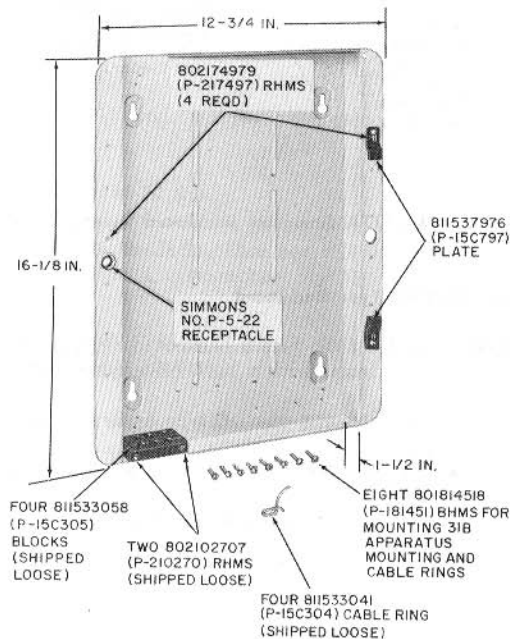
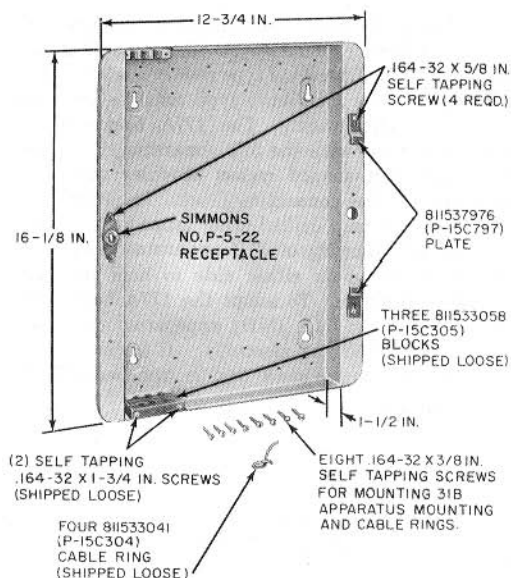

Fig. 22—177A Aluminum Backboard Assembly (MD)
Fig. 23—177A Fiberglass Backboard Assembly
5.03 The 177A die-cast aluminum (Fig. 22) backboard has been replaced by a fiberglass (Fig. 23) backboard. The fiberglass type requires self-tapping screws while the aluminum type requires machine screws for attachment. The 177A backboard is designed for use with the 31B apparatus mounting. A shallow dish-shaped recess provides space for mounting 66-type connecting block. The 811537976 (P-15C797) plates, drilled and tapped to permit right or left hinging of 31B apparatus mounting, may be mounted on either side to hold the gate in a open position. To adapt the 177A backboard for use with the 31A (MD) apparatus mounting, use the D-179862 kit assembly. It consists of a 177A backboard, two metal details, and two 66B1-25 connecting blocks.